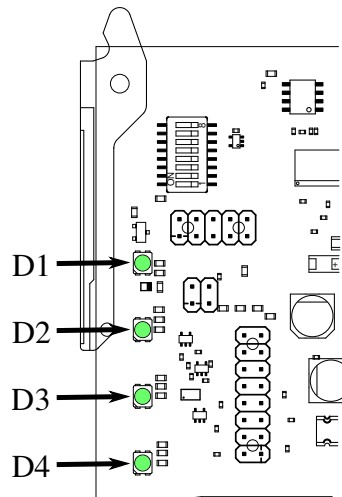

Figure 7.1 Location of the LEDs
3. Wait until lower LED (D4, see Figure 7.1) is yellow and the other leds are off.
There are 4 LEDs on the front side of the card, see Figure 7.1. How these LEDs are used can be configured by setting “Front LED usage”.